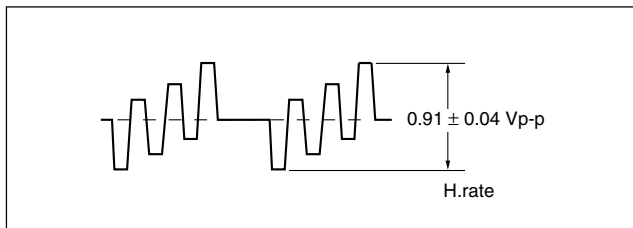

Fig. 3-6-7 B-Y level
- (3) Adjust VR4 so that the B-Y level is 0.91 ± 0.04 Vp-p as shown in Fig. 3-6-7.